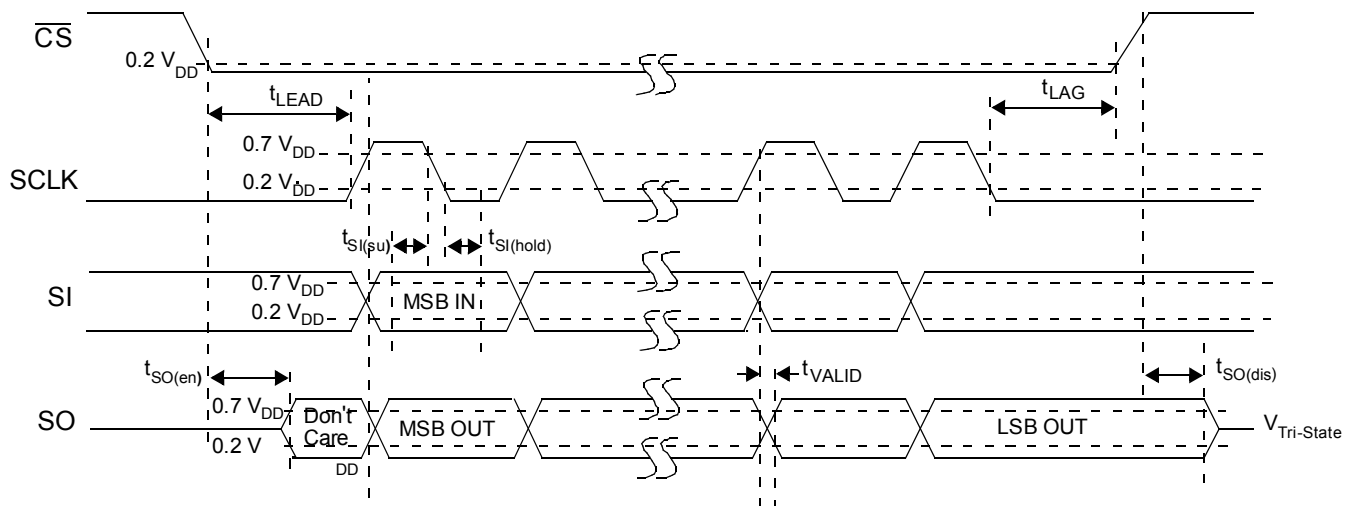

Figure 2. SPI Timing Characteristics
The Serial Input (SI) pin is used to enter one of seven serial instructions into the 33999. SI SPI bits are latched into the Input Shift register on each falling edge of SCLK. The Shift register is full after 24 bits of information are entered. The 33999 operates on the command word on the rising edge of $\overline{CS}$. To preserve data integrity, exercise care to not transition SI as the SCLK transitions from high-to-low state (see Figure 2, page 8).